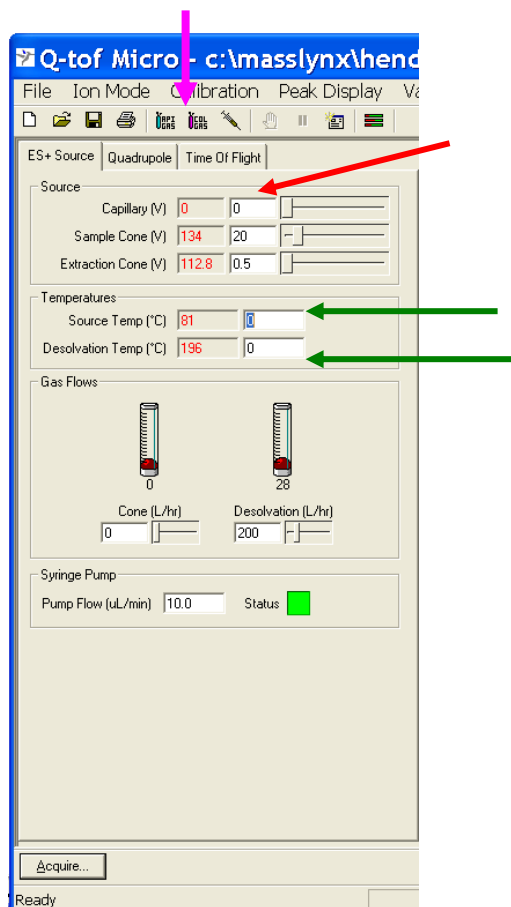

Figure 10
- b. Under the ESI-Source tab (Figure 10, red arrow), the Capillary voltage must be set to 0, and both temperatures must be set to 0 (green arrows)
- c. The gases must also be shut off (Figure 10, pink arrow). You should hear them both make a sound when you turn them off.